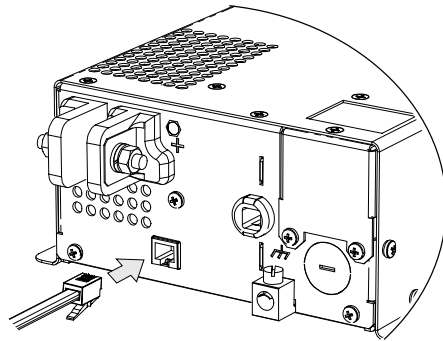

Figure 2-3 Connecting Cable to the TS400
4. Connect one end of the telephone cable to the back of the inverter as shown in Figure 2-3.